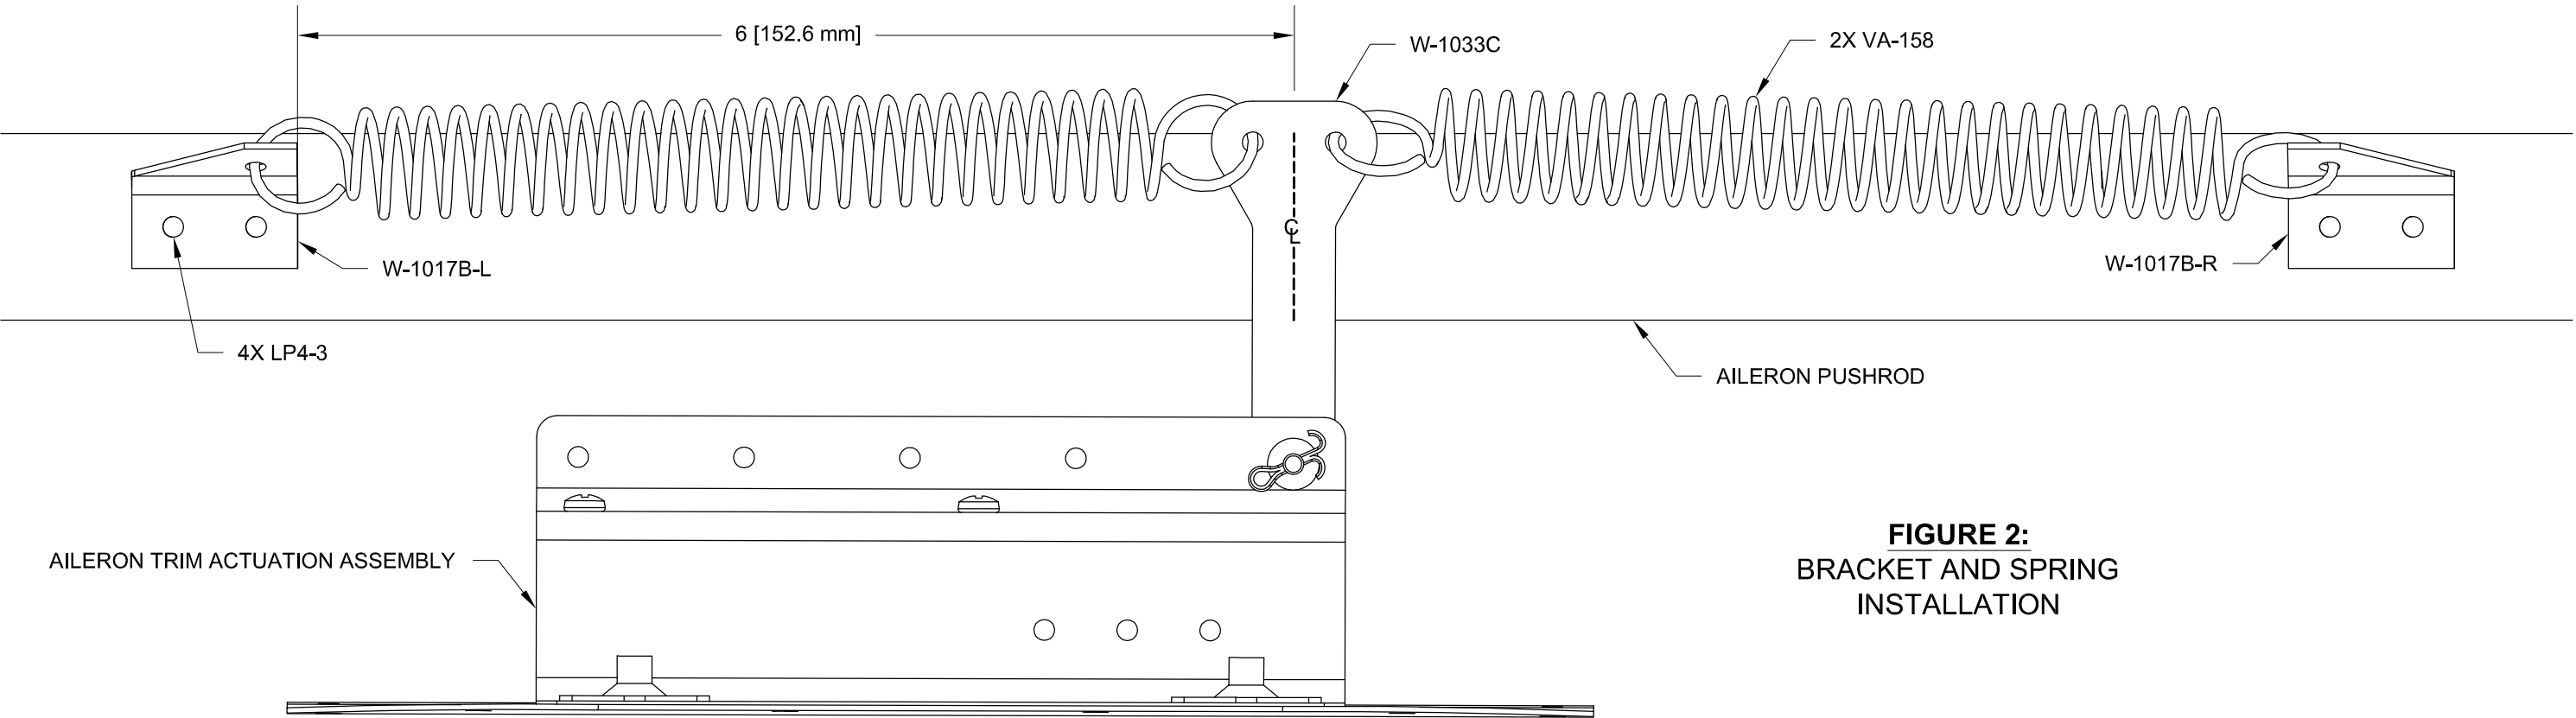

FIGURE 2: BRACKET AND SPRING INSTALLATION
Step 7: Align the each aileron trim spring bracket with the marks made in Step 6, then match-drill #30 the holes in the aileron trim spring brackets into the aileron pushrod. See Figure 2.
Step 10: Install the two VA-158 Aileron Trim Springs as shown in Figure 2. Begin by hooking the springs to the aileron trim spring brackets.